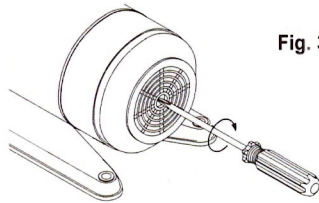

Fig. 3
Please follow the procedure as shown in Fig 3.
3. If the pump sticks after periods of inactivity, a screw driver slot is provided on the motor shaft end to free up the pump/motor. To do so, insert a screw driver in the slot in the motor shaft as shown in Fig 3 and turn to free the rotor. If this does not remedy the problem, the unit will need dismantling.